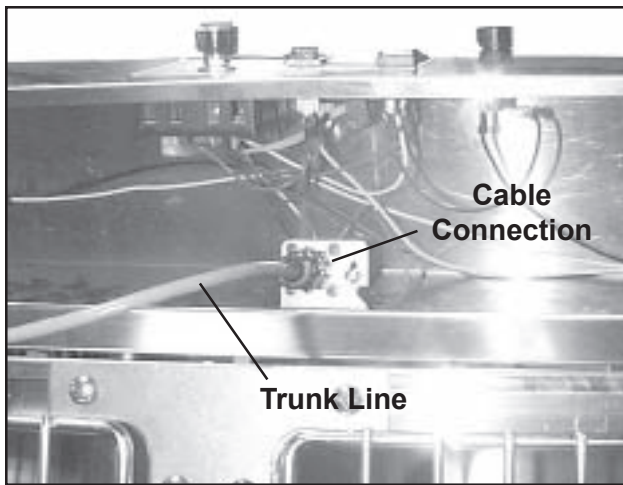

Figure 11. Interior View of Heat Controller Housing (tilted backward)
15. Turn the heat controller housing over on its back so that the open underside faces front (Figure 11).
16. Making sure that the pins and holes line up correctly, plug the 4-pin plug into the cable connection on Heat Controller No. 1 (Figure 11) and secure the connection by turning the large ring clockwise.